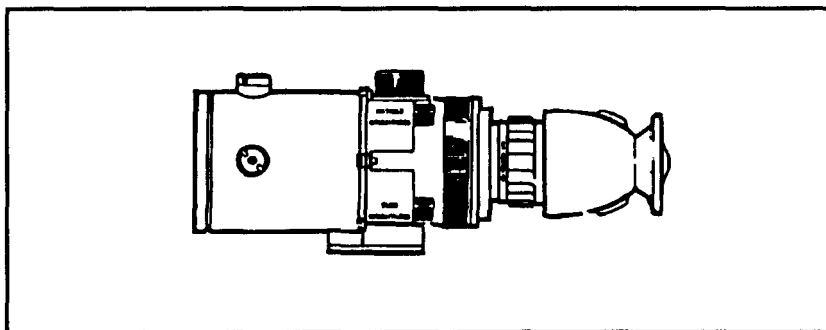

Figure 2-26. Night vision sight, AN/PVS-4.
a. **Night Vision Sight, AN/PVS-4.** The AN/PVS-4 is a portable, battery-operated, electro-optical instrument that can be hand-held for visual observation or weapon-mounted for precision fire at night (Figure 2-26). The observer can detect and resolve distant targets through the unique capability of the sight to amplify reflected ambient light (moon, stars, or sky glow). The sight is passive thus, it is free from enemy detection by visual or electronic means. This sight, with appropriate weapons adapter bracket, can be mounted on the M16 rifle.